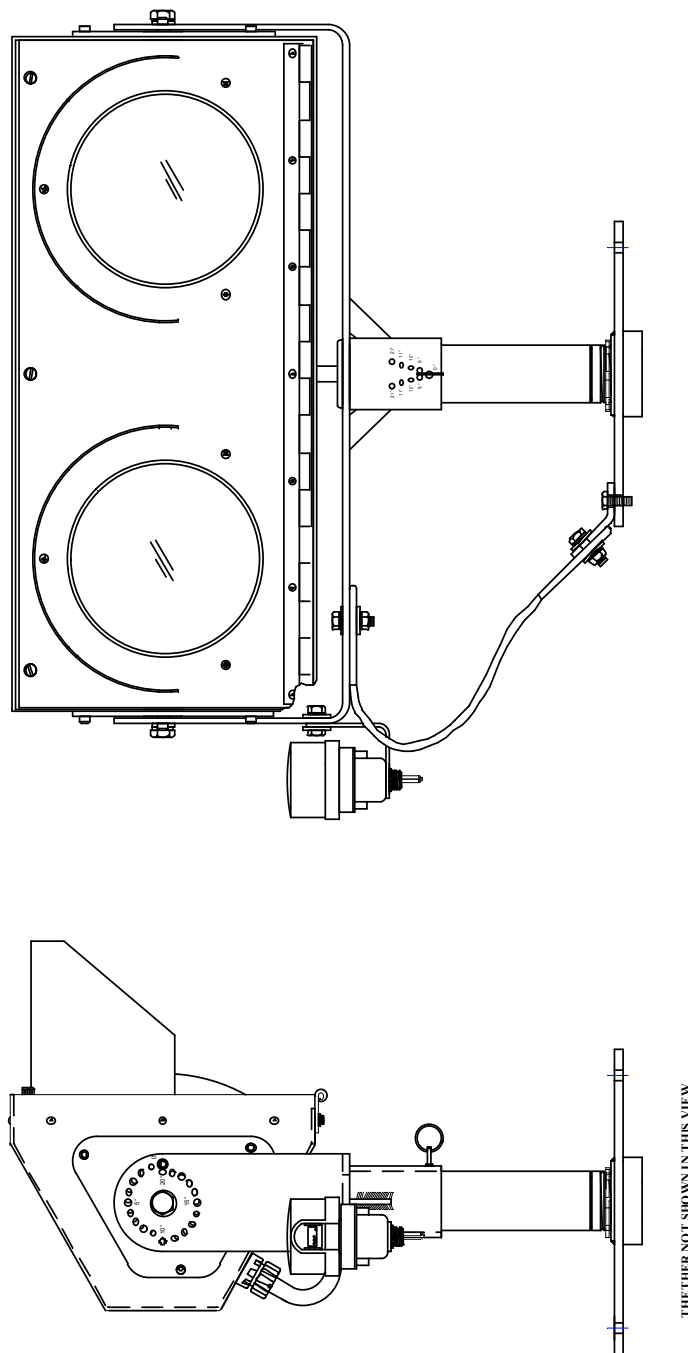

Figure 9-10 Runway Guard Light – Mode 2 with Photocell
1. Mount the photocell bracket to the side up-right support with the best northern view and away from stray or aircraft lights. Refer to figure 9-10.